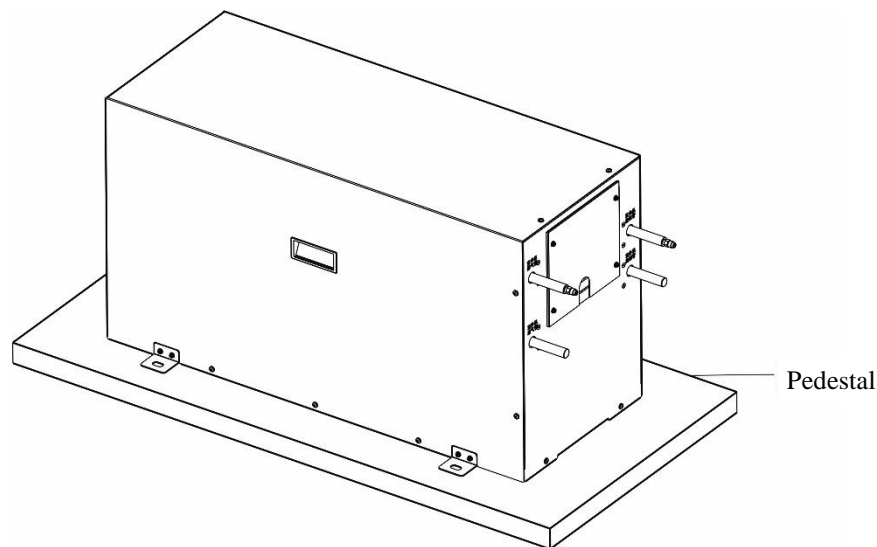

Figure 2-7 Low temperature component installation diagram
- 4) Please refer to Figure 2-7 for the schematic diagram of low temperature component installation.